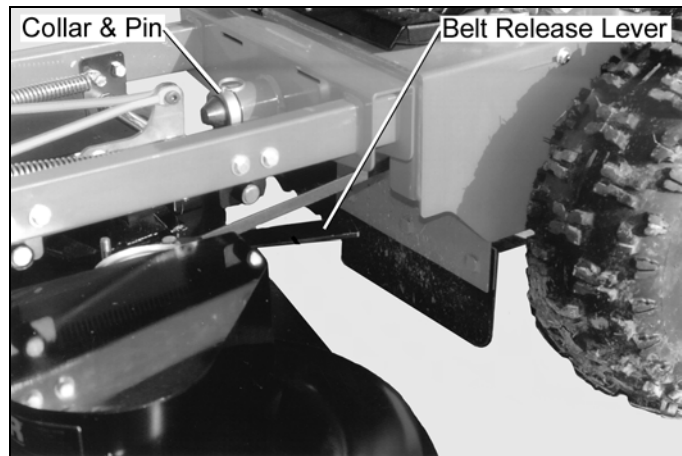

Figure 8
3. Attach the collar and insert the pin (*Figure 8*).